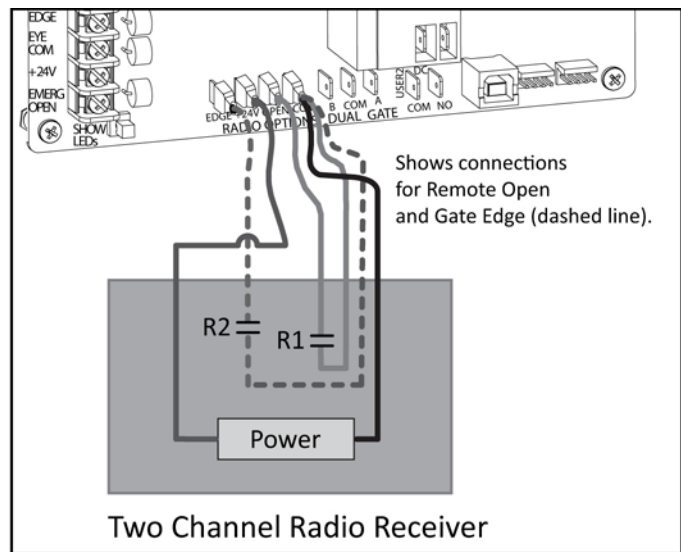

Figure 6-1.
1. Route the wires to the area marked **RADIO OPTIONS**. Only three wire connections are needed because the common wire and one radio output wire are connected together. Figure 6-1 shows additional wires from a two channel receiver.